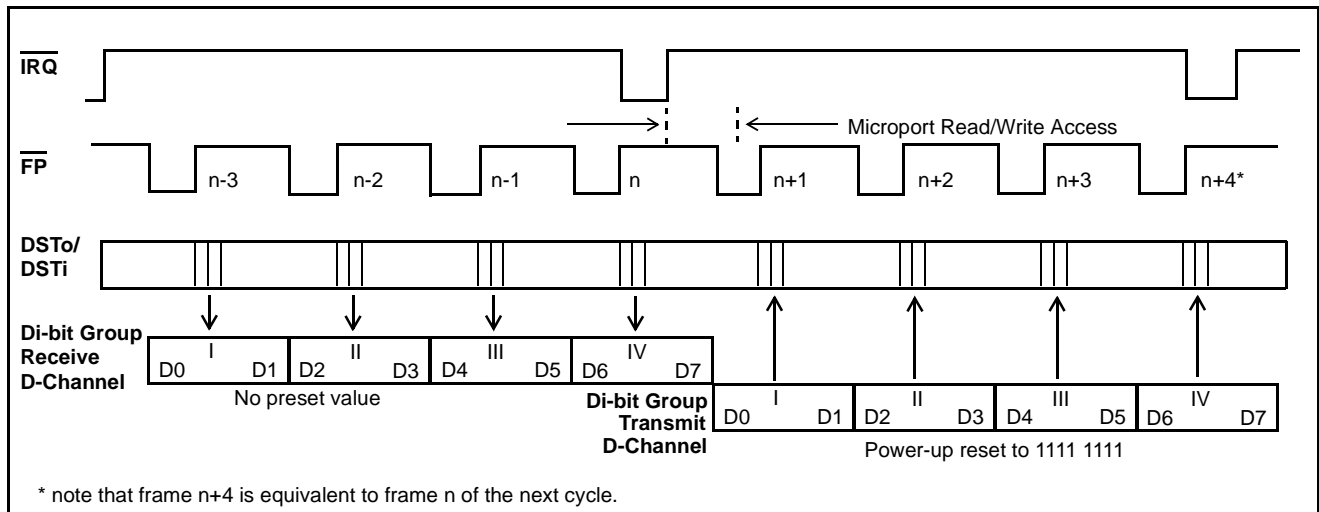

Figure 8a - D-Channel 16 kb/s Operation
- a. A microport read of address 15 hex will result in a byte of data being extracted which is composed of four di-bits (designated by roman numerals I,II,III,IV). These di-bits are composed of the two D-Channel bits received during each of frames n, n-1, n-2 and n-3. Referring to Fig. 8a: di-bit I is mapped from frame n-3, di-bit II is mapped from frame n-2, di-bit III is mapped from frame n-1 and di-bit IV is mapped from frame n.
- b. A microport write to Address 15hex will result in a byte of data being loaded which is composed of four di-bits (designated by roman numerals I, II, III, IV). These di-bits are destined for the two D-Channel bits transmitted during each of frames $n+1$, $n+2$, $n+3$, $n+4$. Referring to Fig.8a: di-bit I is mapped to frame $n+1$, di-bit II is mapped to frame $n+2$, di-bit III is mapped to frame $n+3$ and di-bit IV is mapped to frame $n+4$.